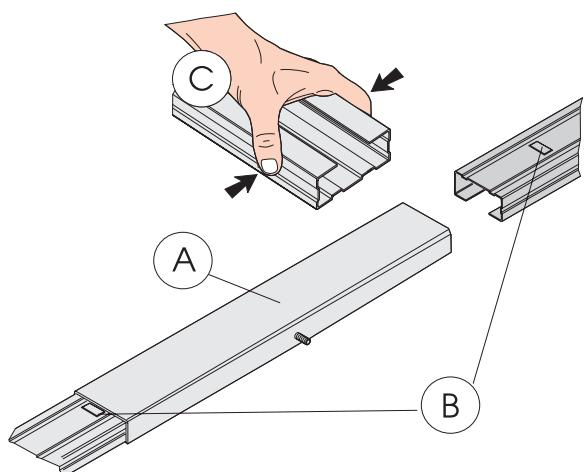

Fig. 6
- Assemble the two pieces of the sliding guide, fitting them in the central joint (Fig. 6 ref. A) until they come to a stop against the metal reference reliefs (Fig. 6 ref. B). To facilitate engaging the sliding guide, we advise you to insert it in the central joint, compressing it as shown in Fig. 6 ref. C. Do not use tools which could deform the guide or joint.